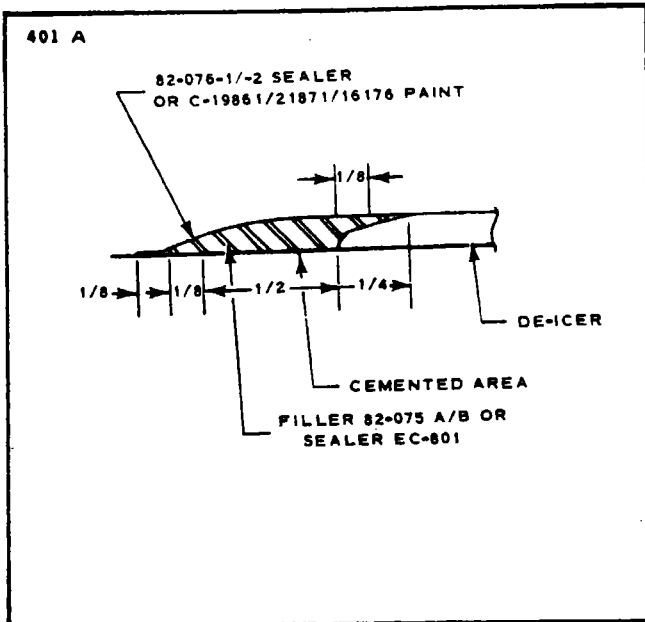

Figure 14-20a. Sealer Application
- e. Locate masking tape approximately - .125 inch beyond cemented area around deicer to allow application of filler directly to metal. Apply one even brush coat of 82-075A/B filler (or EC-801 filler) over .125 inch of bare metal, cemented area and about .125 of an inch of deicer. (See Figure 14-20a.)
- g. Apply new masking tape approximately .125 of an inch beyond filler to allow application of sealer directly to metal. Apply one even brush coat of 82-076-1/2 sealer (or C19861/C-16176 paint) over .125 of an inch of bare metal, filled area and .250 of an inch of deicer. (See Figure 14-20a.)